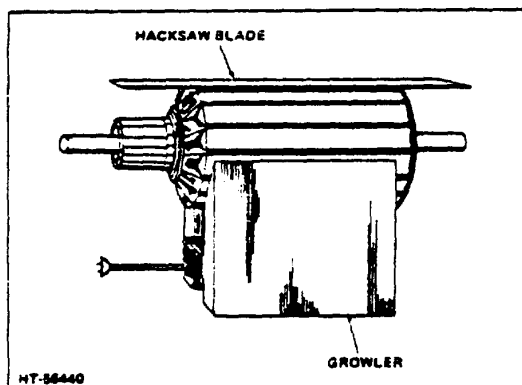

Figure 7-1. Testing an Armature for Shorts
1. Check the armature for shorts by placing it on a "growler" and with a steel strip, or a hacksaw blade held on armature core; rotate armature (Fig 7-1). When blade vibrates, armature is shorted in area of the core below the vibrating blade. Copper or dust in slots between commutator bars sometimes cause shorts which can be eliminated by cleaning out slots.
3. Open circuits in an armature may be caused by a poor connection of leads in the commutator bars or by a broken wire in an armature coil. Either will cause sparking at the brushes. Poor connections and broken wires can often be detected visually. When this is not possible, set up the armature on the growler as shown in (Figure 7-1). Test the top two adjacent bars with an a-c millivoltmeter. Rotate the armature and continue testing adjacent bars. When the millivoltmeter bridges the two bars connected to the open coil, the meter pointer will not be deflected. All other bars will give a deflection.